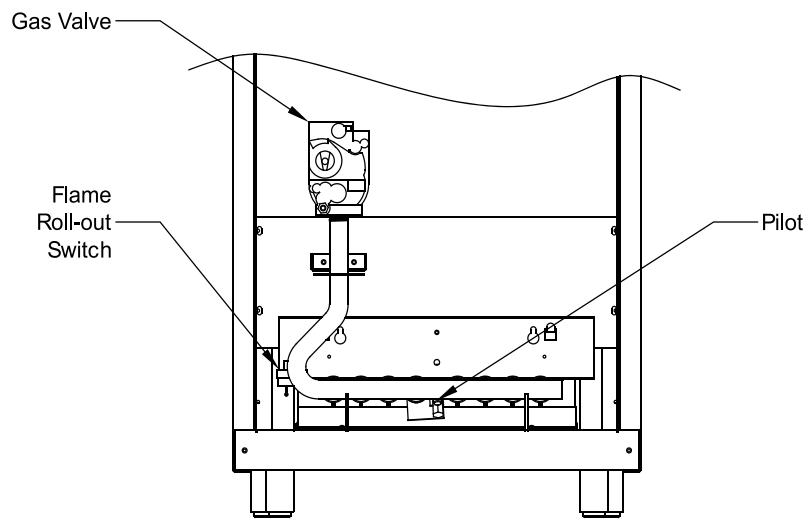

Figure 3: Burner Compartment Area
3. All boilers are equipped with a flame rollout switch (Figure 3). This switch will shut the burners down in the event that flames exit the burner compartment through the front opening. If this happens, the flame rollout switch must be replaced. If the boiler fails to fire, call a qualified heating service agency to diagnose and correct the problem.
- Black carbon (“soot”) in or near the burner compartment area (Figure 3)